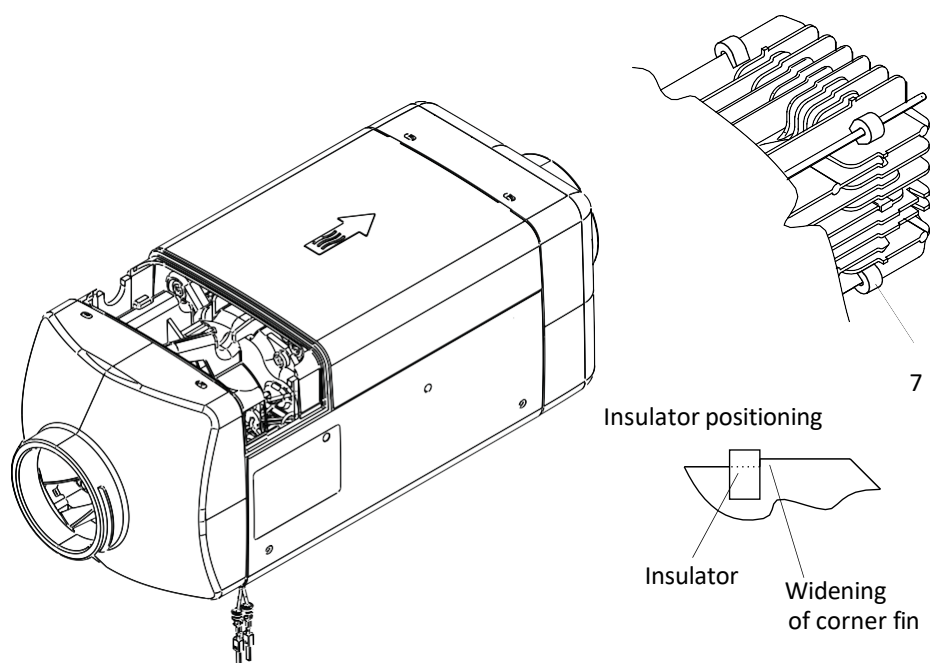

Fig. 902 Removing / fitting casing parts
The cover (1, Fig. 902) can be carefully levered off using a blunt blade in the areas marked (X)
Both covers (3 and 6, Fig. 902) can be released from their mounting and removed by pressing the 4 retaining lugs at the top and bottom using a suitable tool.
The casing (2, Fig. 902) can be removed by pulling upwards.
The retainer is released by gentle pulling the lower casing (4, Fig. 902) on both sides in areas Y and the casing can then be detached from the motor.
- Slide the four insulators (7, Fig. 902) onto the four corner fins of the heat exchanger and position them exactly next to the wide area of the fins.
- Make sure that all four insulators (7, Fig. 902) are firmly seated.
When fitting the lower casing (4, Fig. 902), spread it slightly so that the spacers on the overheating temperature sensor (8, Fig. 903) are not damaged.
1. Gently spread the lower casing (4, Fig. 902) and fit it onto the heater from below so that the lock pins in the heater engage in the holes in the casing.
1. Place the upper casing (2, Fig. 902) on the heater and secure it in the grooves in the lower casing.
1. Push on covers (3 and 6, Fig. 902) until the 4 securing holes engage properly over the retaining lugs on the lower and upper casing.
1. Fit the grilles (5, Fig. 902) onto the covers for heating air inlet and outlet and lock by twisting.
1. Slide on cover (1, Fig. 902) until it audibly snaps into the upper casing.